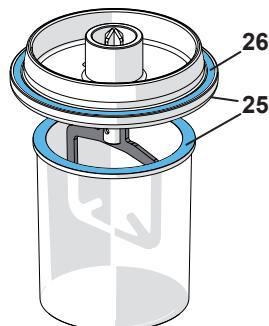

Fig. 10
- ⇒ Make sure the bowl rim and cover rim (25, Fig. 10) are clean.
- ⇒ Couple the mixing bowl (14) to the appliance.
- ⇒ Do not let go until the bowl stays in place alone and vacuum level bar (23) has passed the halfway mark!